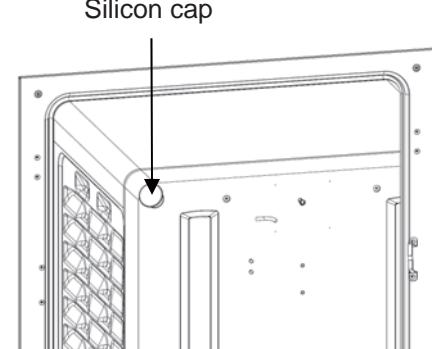
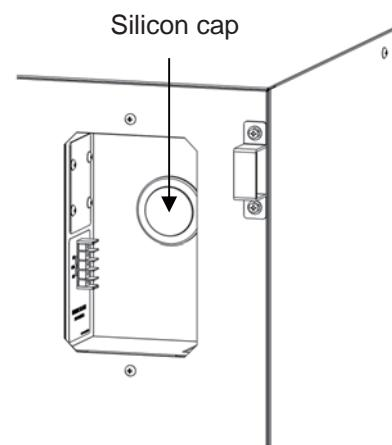

Fig. 7
Fig. 8
8. Remove the silicon caps for the access port from the interior (Fig. 7) and exterior (Fig. 8).